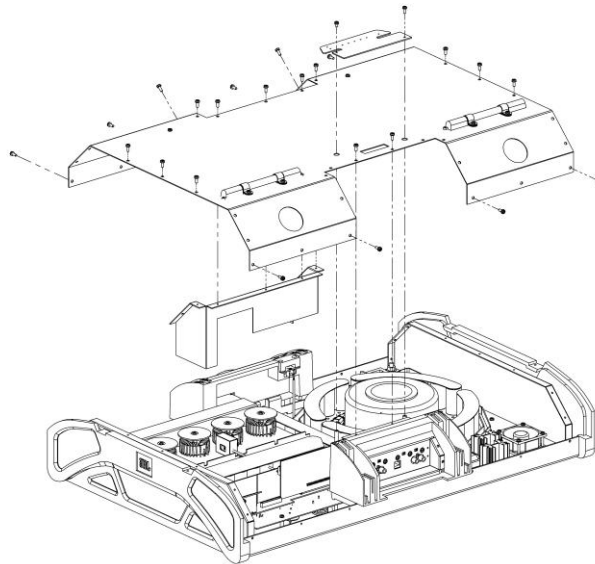

Figure 4.3 Perforated (EMI) Shield
11. Remove the perforated shield and sheet metal shield (see Figure 4.3).